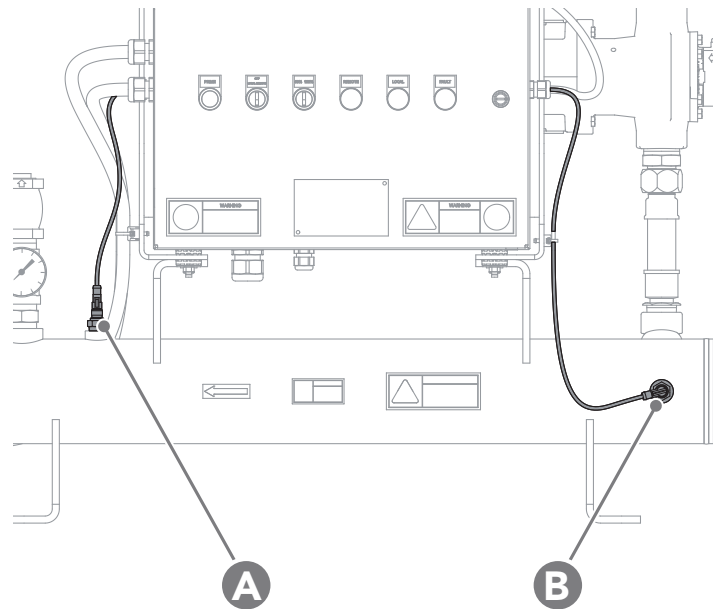
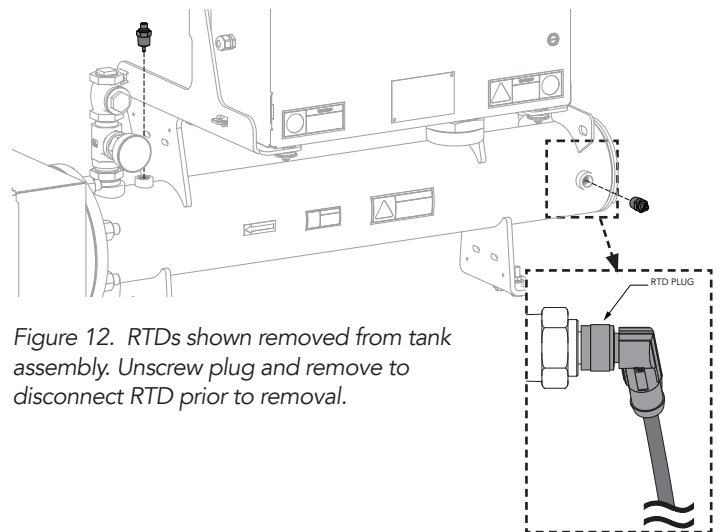

Figure 11. OMM/OLM high-limit RTD (A) and control RTD (B).
Figure 12. RTDs shown removed from tank assembly. Unscrew plug and remove to disconnect RTD prior to removal.
- If there **is no continuity** between TCR terminals **T2** and **T3**, locate the connected RTD on the heating tank. Unscrew the RTD plug from the RTD. See Figure 11 and Figure 12 on following page.
2. Close isolation valves. Drain fluid from the oil heating tank. Locate the RTD that requires replacement. See *Figure 11*.
3. Unscrew RTD plug. Remove plug. See *Figure 12*.
4. Unscrew RTD from tank. See *Figure 12*.